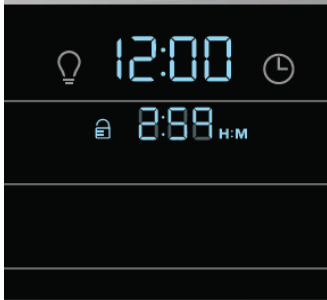

Figure 36: Clean cycle in progress
- During the clean cycle the time of day remains in the display and the time remaining in the clean cycle will also be active. (Figure 36)